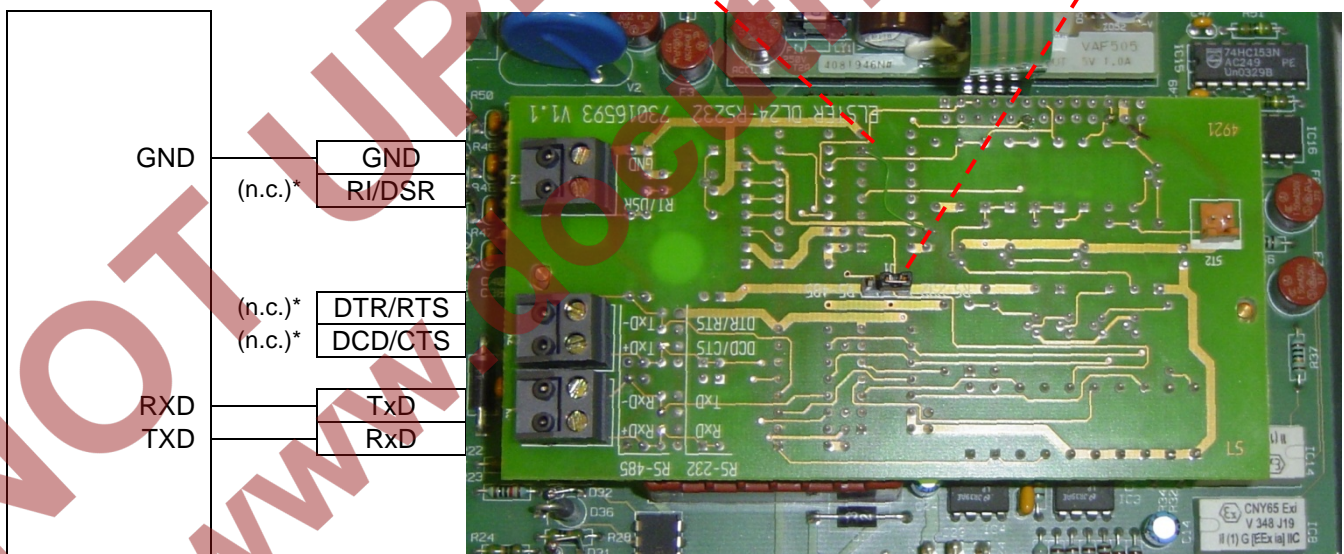

Fig. 17: RS232-Adapter in the FE260
- Place jumper J1 into the "RS232" position. (⇒ Fig. 17)